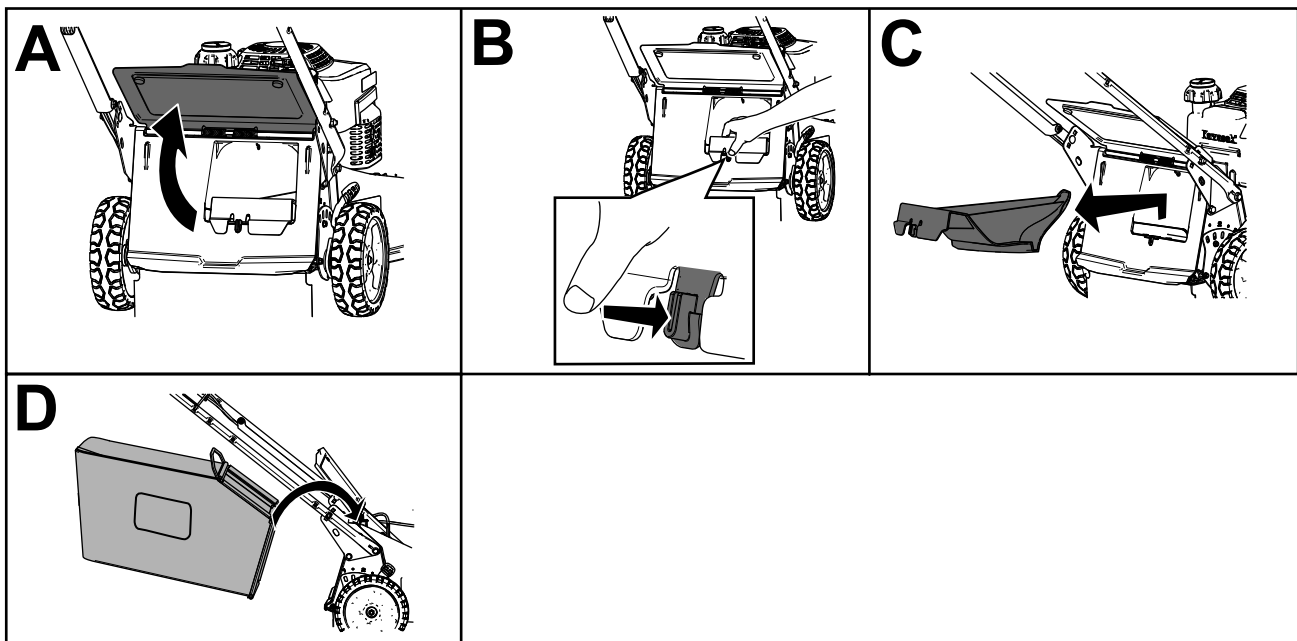

Figure 16
2. Raise and hold up the rear deflector (A of Figure 16).
3. Remove the rear-discharge plug by pushing in the latch with your thumb and pulling the plug out from the machine (B and C of Figure 16).
4. Install the bag-rod ends into the notches at the base of the handle, and rock the bag back and forth to ensure that the bag-rod ends are seated at the bottom of both notches (D of Figure 16).